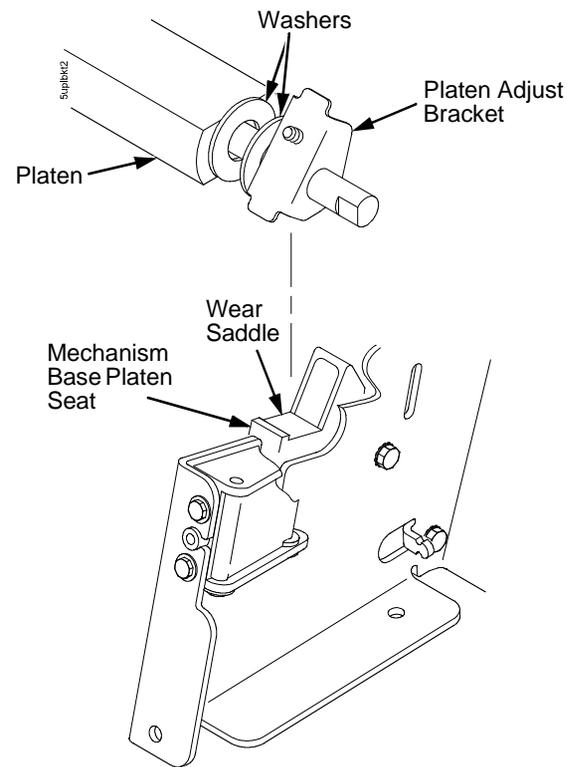

Figure 29. Positioning the Platen Adjust Brackets
4. Make sure the two wear saddles are set flush into the corners of the mechanism base platen seat. (See Figure 29.)